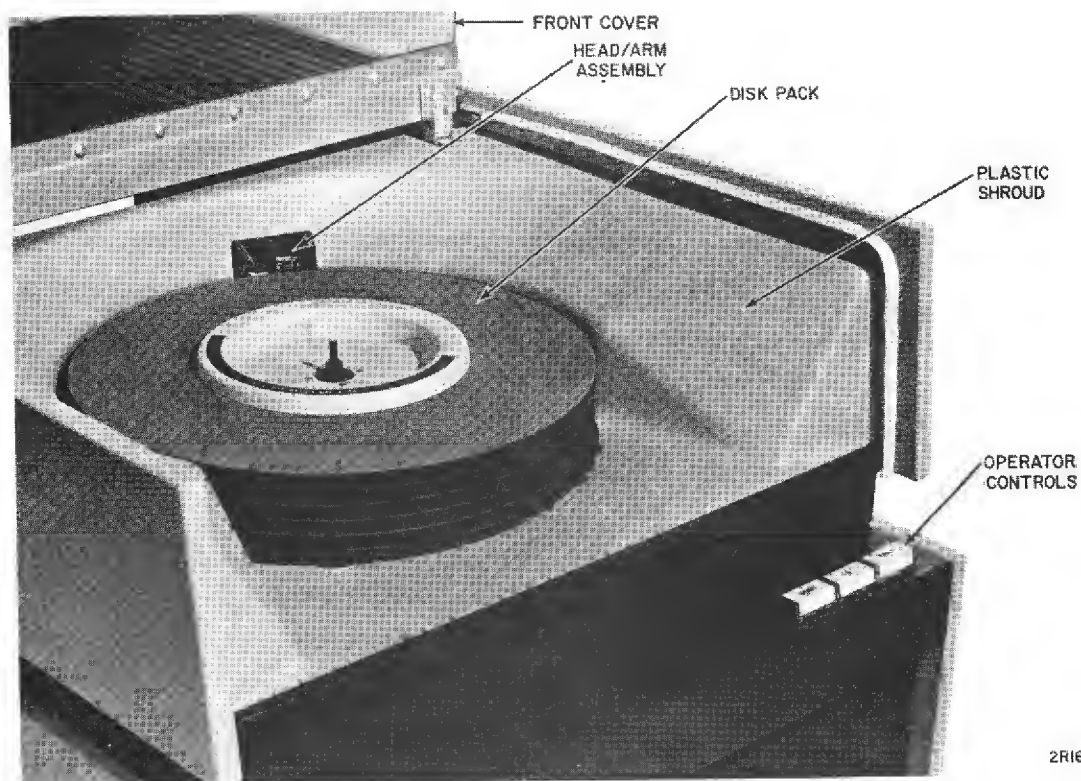

Figure 2-1. Disk Pack Load and Unload Mechanics
3. Raise the front cover on the disk storage drive (Figure 2-1).